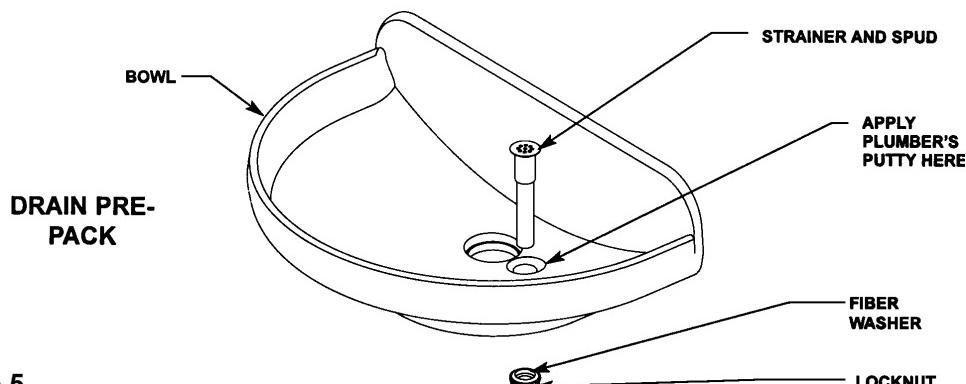

Figure 5
- A** SECURE DRAIN SPUD WITH LOCK NUT AND WASHERS AS SHOWN IN FIGURE 5.